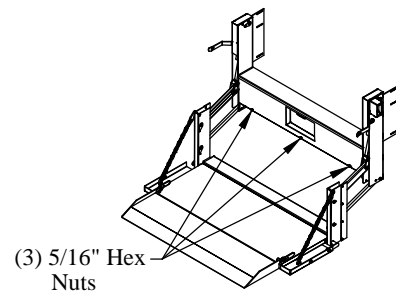

Figure 19: Box cover locations.
1. **Remove** the box cover by removing the 5/16" hex head nuts or bolts (Figure 19).